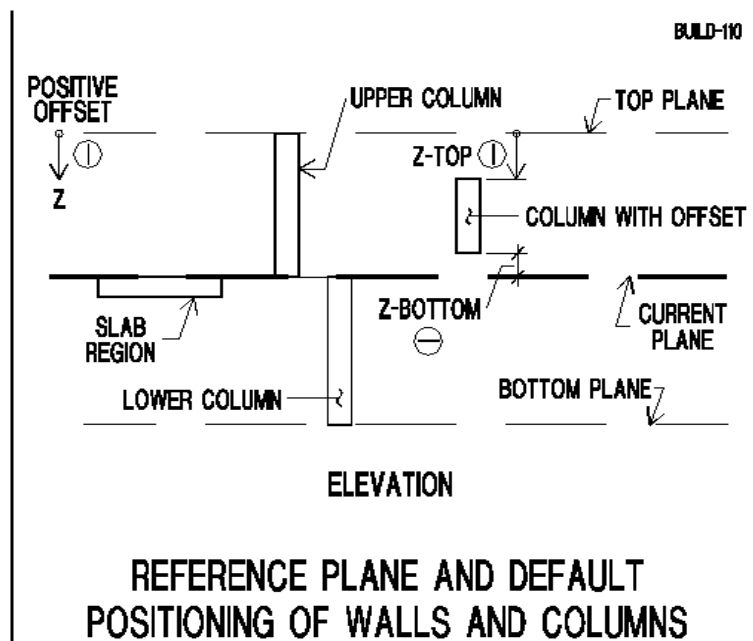

Figure 4.1-2
The supports below the floor system are defined with reference to the current plane and bottom plane (**Fig. 4.1-2**). Similarly, the supports above the floor system, such as columns, walls and ramps, are defined with respect to the current plane and the top plane. The top and bottom planes are used by the program to determine the height of each of the supports. For example, the length of an upper column is defined by the position of its top and bottom ends. The position of the bottom end is defined with respect to the bottom, and the position of the top end with respect to the top plane. The default of the program is that each wall or column support extends between the current plane and either the top or bottom plane. There are two conditions when you may wish to change the end position of a structural component along the vertical plane. The *Offset* and *Establish Component Connectivity* functions do this for you.
- **Offset.** For components that do not extend over the entire length between two adjacent reference planes, such as the short upper column shown in **Fig. 4.1-2**, the offset (Z distance) from the associated reference plane is used to adjust the end of the member. Create the structural component, then open its property box and change its offset to the position of your choice.